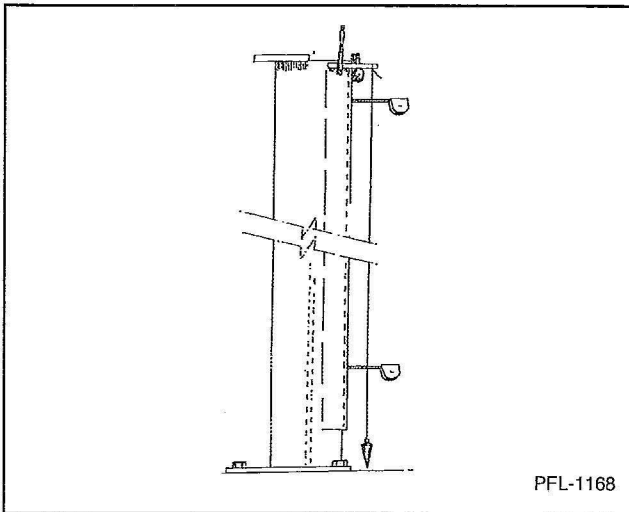

Figure 16
1. Plumb column in both directions. See Figure 16.